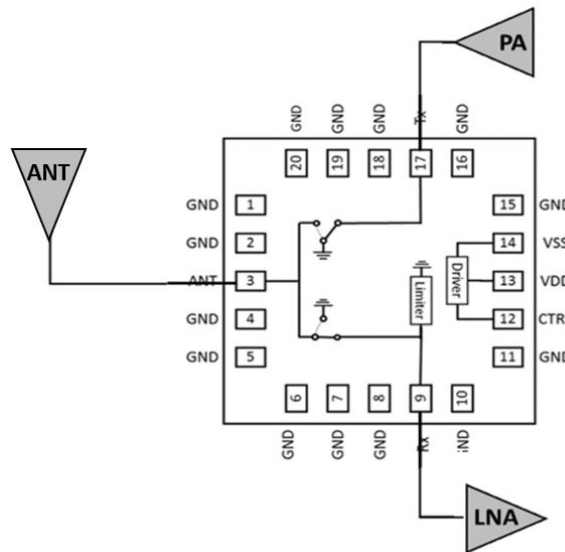

Figure 22. Typical power amplifier, low noise amplifier, antenna configuration with ADRF5141 T/R switch
The power limiter at the RX arm kicks in and limits the input power from ANT at the RX Output Leakage Power level (see Table 1). A typical configuration of ADRF5141 would be to connect an antenna at the ANT pin, a power amplifier (PA) at the TX pin and a low noise amplifier (LNA) to the RX pin. The integrated power limiter at the receiver arm provides a protection to the low noise amplifier input connected to the RX pin (see Figure 22).